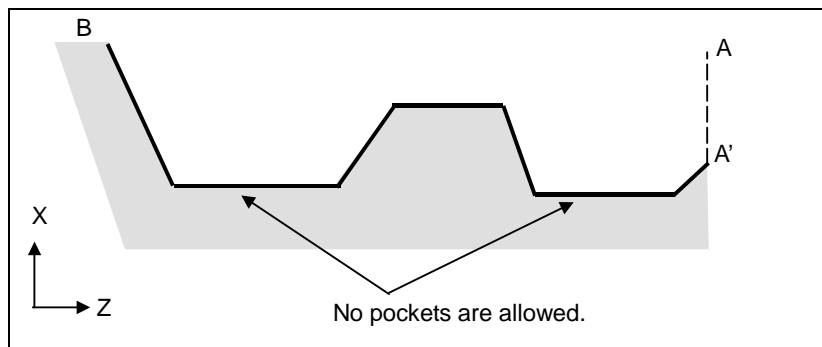

Fig. 4.2.1 (c) Figure which does not show monotone increase or decrease (type I)
(2) The figure along path A'-B must show monotone increase or decrease in the directions of both axes forming the plane (Z- and X-axes for the ZX plane). It must not have any pocket as shown in the Fig. 4.2.1 (c).